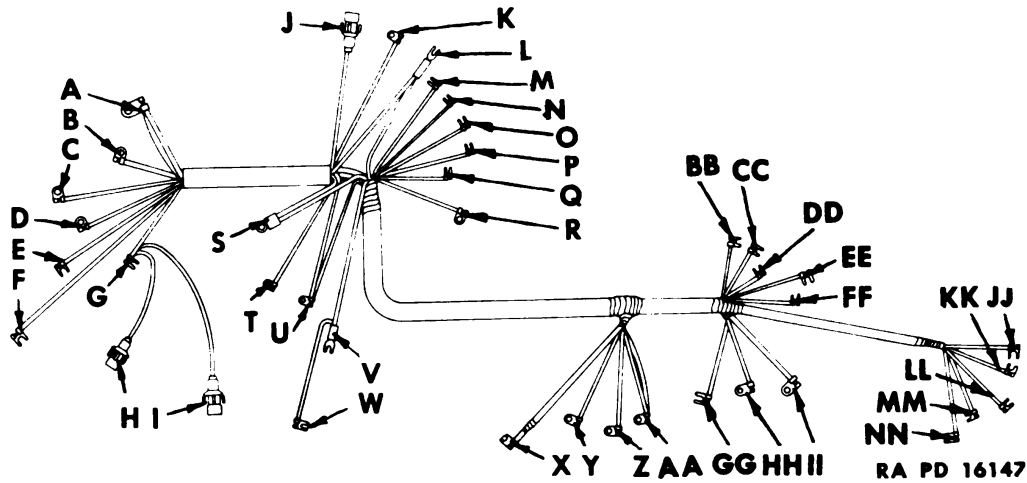

Figure 101—Instrument Panel Wiring Harness
Wires and connections of each harness are listed in Figs. 101 through 106.
e. Instrument Panel Harness (Fig. 101). This harness extends from junction blocks through toe board and to instrument panel.
a. Location of various wiring harnesses, used on this vehicle, are illustrated diagrammatically in Fig. 98. Individual harnesses are illustrated in Figs. 101 through 106.